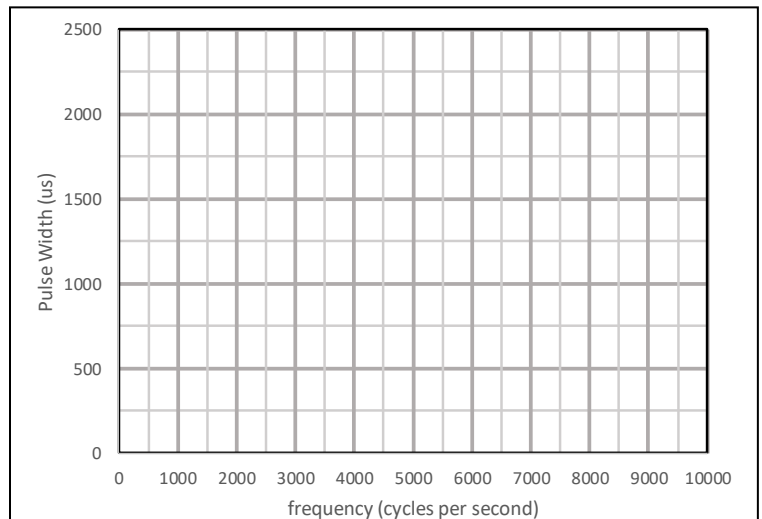

Fig 19 Relation between frequency and pulse width
- Set Δf close to 0.5 kHz and measure the width of the pulse. Record in Table 3 and place the point on the blank graph of Figure 19.